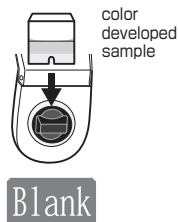

Fig.4
3. Insert the cell filled with color-developed sample into the cell box. Press <Blank>. (Fig.4)